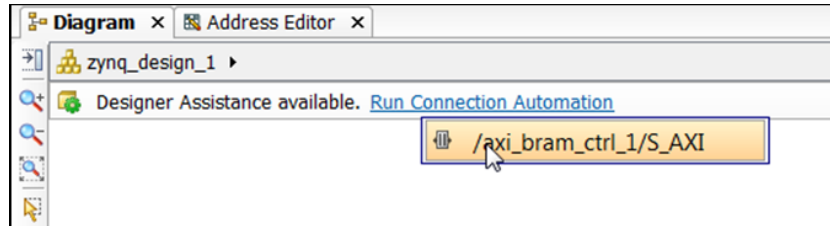

Figure 19: axi_bram_ctrl Selection
5. Click **Run Connection Automation** again, and select the remaining option `/axi_bram_ctrl_1/S_AXI` (FIGURE 19).